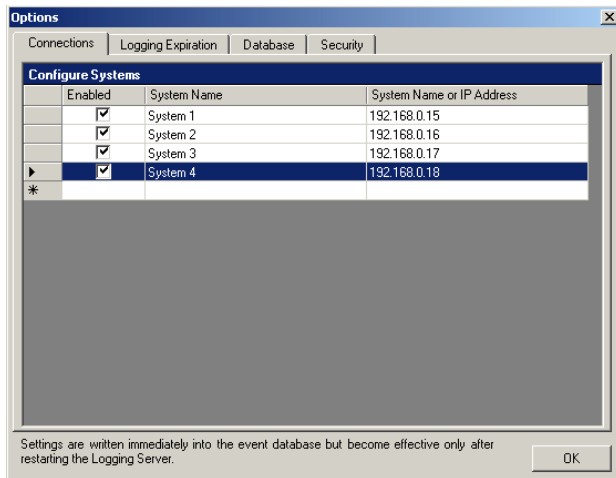

figure 56.9: Delete a system (1)
- 1 Click the field in front of the row that contains the system. For example, *System 4* (see figure 56.9).